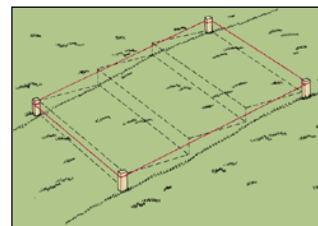

Figure 2
**STEP 1.** Stake out the perimeter of the stairway by driving a stake into the ground at each corner of the stairway and stretching string between them (figure 2).
**STEP 2.** Determine the areas that need to be excavated for each step. Using a measuring tape and starting from the string at the bottom of the slope, measure and mark the depth of the each step until you reach the string at the top of the slope. Use spray paint, sand, or flour to mark the depth of each step (figure 2).